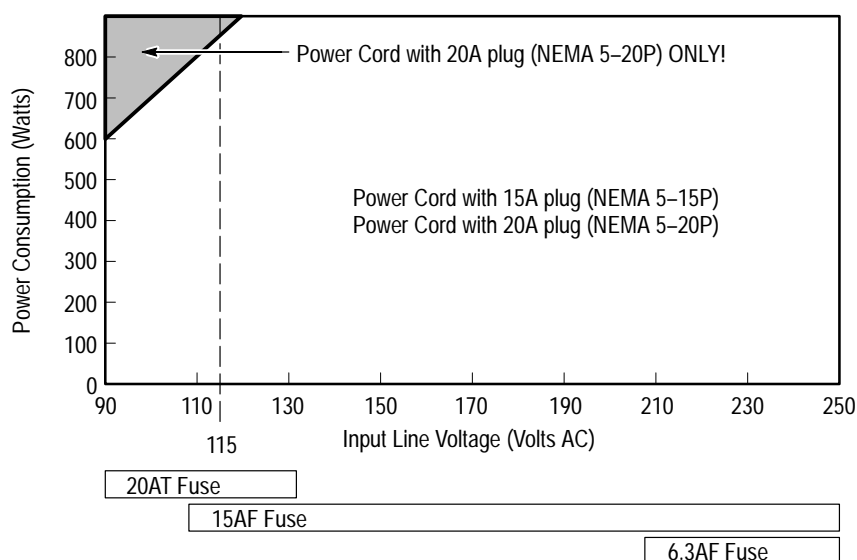

Figure 22: Power cord identification chart
4. Refer to Figure 22 on page 66 to determine the proper power cord and line fuse for your mainframe.
For power usage in the nonshaded region of Figure 22, use either the power cord with the 15 A plug (two parallel prongs and ground) or the power cord with the 20 A plug (two perpendicular prongs and ground). For high power usage combined with low input line voltages (shaded region), use only the power cord with the 20 A plug. Select the proper fuse based on the ranges shown in Figure 22.
Add 40 watts (for the controller) + 81 watts (for the DSO Module) + 4 X 115 watts (for the logic analyzer modules) to come up with a total value of 581 watts. Because the power consumption (at 90 VAC) is approaching the shaded area of the graph in Figure 22, you should consider using the 20A power cord.